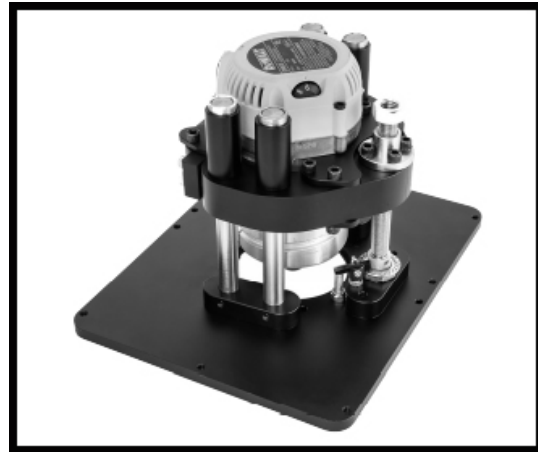

Figure 37
4. Secure the router with the best configuration of clamping plates that will hold it. Then retighten the cap screws (Fig.37) Note: The router body should just touch the back of the insert plate.